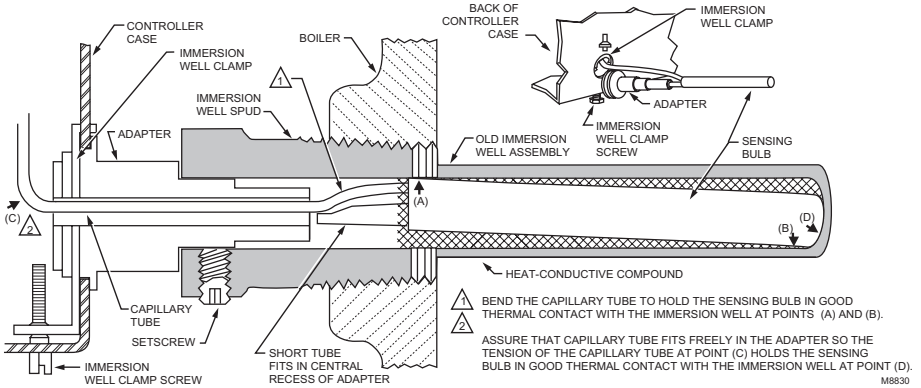

Fig. 3. Positioning the sensing bulb in the immersion well.
*Be sure that the sensing bulb fits snugly inside the immersion well and that the sensing bulb rests against the bottom of the immersion well. If the sensing bulb does not fit snugly inside the immersion well, use the heat-conductive compound as described below. See Fig. 3.*
3. Fasten R8182D immersion well clamp to flange on immersion well adapter. See Fig. 3.
- Loosen the immersion well clamp screw. See Fig. 3.